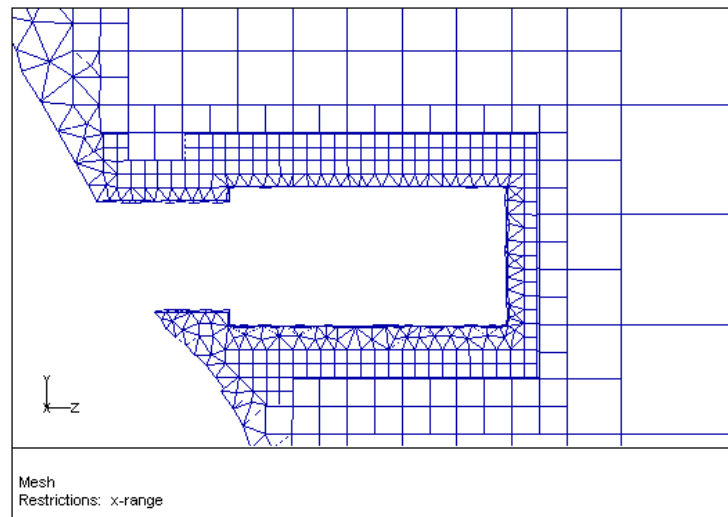

Figure 8.16: Hexcore Mesh Near the Mirror
- (e) Zoom in and examine the mesh around the mirror (Figure 8.16).